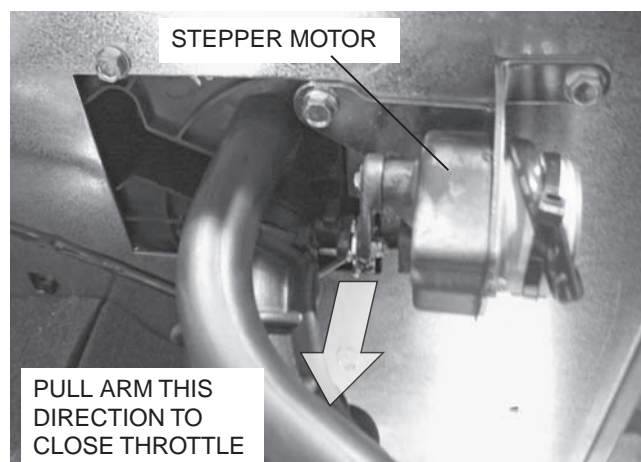
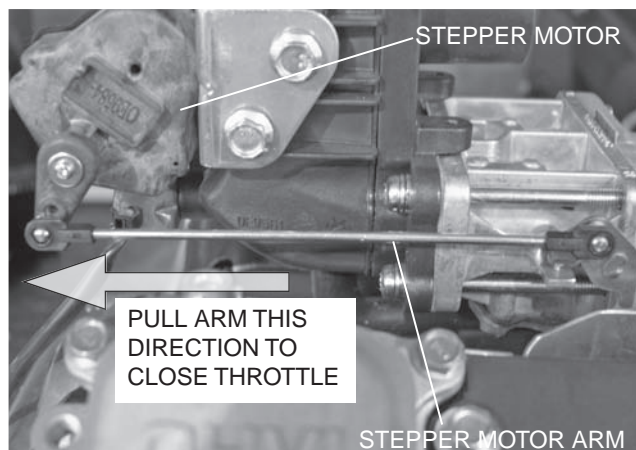
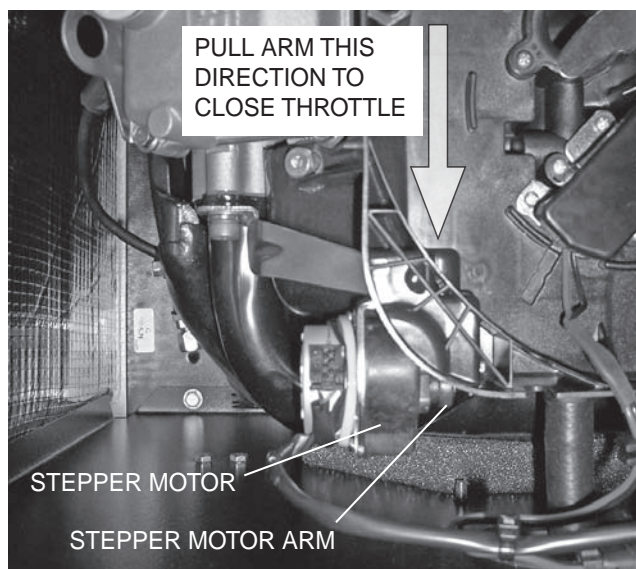

Figure 55. Throttle Positions 8kW Units
Figure 56. Throttle Positions 9/10kW Units
Figure 57. Throttle Positions 12-20kW Units
3. Physically move the throttle to the closed position by pulling the Stepper motor arm towards the idle stop. See Figure 55 for 8kW units, Figure 56 for 10kW units, and Figure 57 for 12-20kW units.